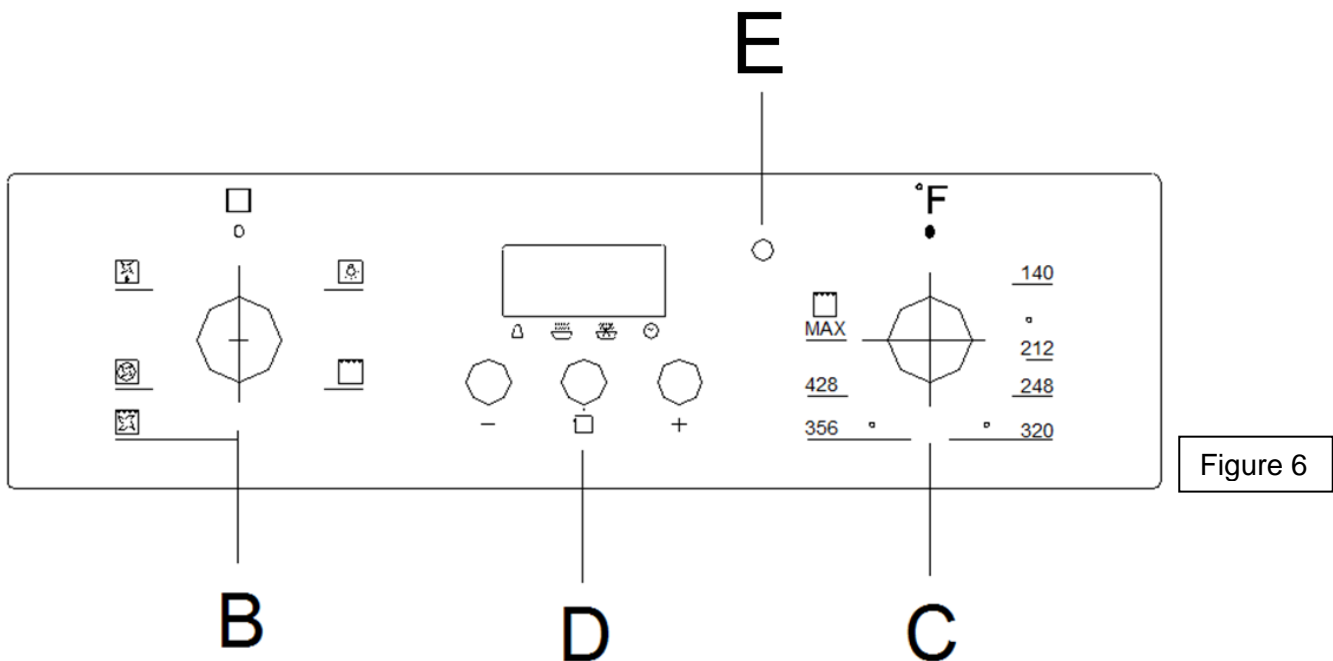

Figure 6
1. Press the function button (See Figure 6) repeatedly until the square symbol above the "  " flashes, and press " **+** " or " **-** " button to set how long oven needs to cook.
3. Adjust Knob B and C (See Figure 6) to select cooking mode and temperature mode.
2. Press the function button (See Figure 6) repeatedly until the square symbol above “” is flashing, press “+” or “-” button and set the timer for how long the oven needs to cook.
4. Adjust Knob B and C (See Figure 6) to select cooking mode and temperature mode.
2. Press the function button (See Figure 6) repeatedly until the square symbol above “” flashes, press “+” or “-” button and set the time for oven to stop cooking.
- **Position Knob C to MAX.** (See Figure 6)
- **Position Knob C between 60°C and 200°C.** (See Figure 6)
- **Position Knob C between 60°C and 250°C.** (See Figure 6)
- **Position Knob C to any temperature.** (See Figure 6)
1. **Position Knob B to select**  . (See Figure 6)